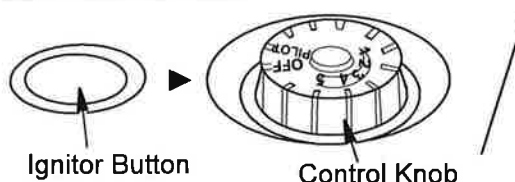

Figure 19 - Control Knob in the OFF Position
4. Wait five (5) minutes to clear out any air. Then smell for gas, including near the floor. If you smell gas, STOP! Follow "B" in the safety information above. If you do not smell gas, go to the next step.
5. Turn control knob counterclockwise  to the PILOT position. Press in control knob for five (5) seconds (see Figure 19).